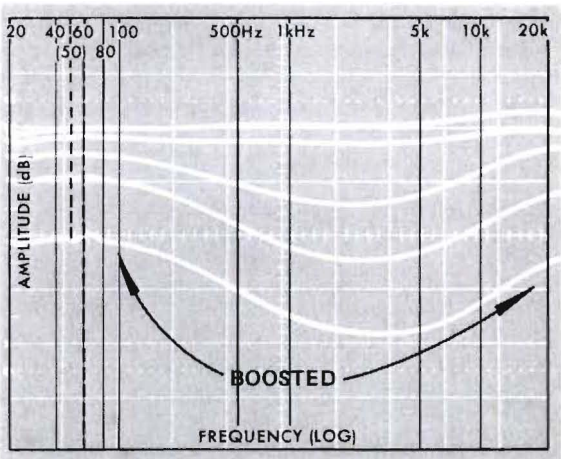

Figure 16 Loudness Control Effects
- 1. The effects produced by varying the loudness contour control can be observed (Figure 16) by sweeping the flat response each time the loudness control is increased by 1/8 turn.